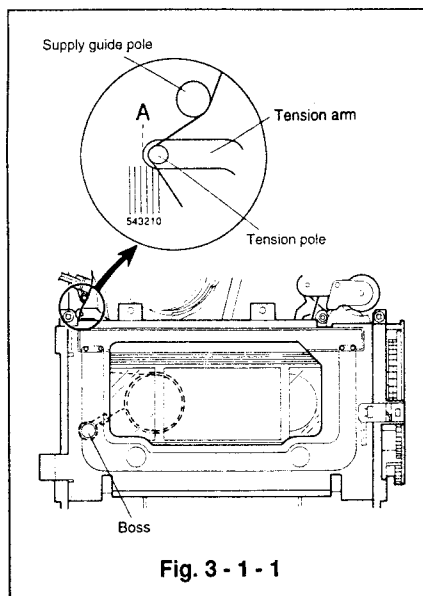
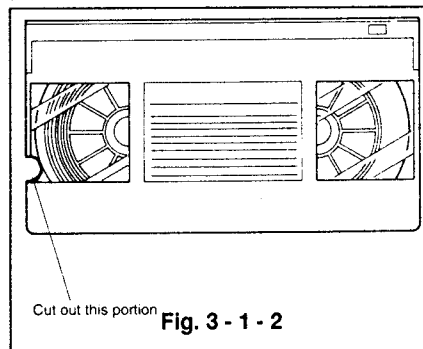
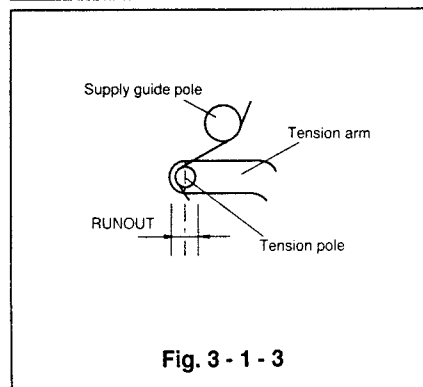

Fig. 3-1-1
Fig. 3-1-2
Fig. 3-1-3
- ① Cut out the alignment tape [PM6KH3 : 859C339O30] as shown in Fig. 3-1-2. This allows the boss to be adjusted while playing the tape by inserting hexagon wrench through the round hole in the cassette housing shown in Fig. 3-1-1. (Take care not to allow fragments of the cassette case inside the cassette tape.)
- ② Playback an alignment tape which has a cut out.
- ③ Make sure that the tip section A of the tension arm is between the divisions "2" and "2.5" on the main plate. (Fig. 3-1-1) (The divisions are numbered from the right to left.)
- ④ If tip section A of the tension arm is to the right of "2", turn the boss clockwise. If A is to the left of "2.5", turn it counter-clockwise.
- ⑤ Insert a back tension measuring jig (Part No. 859C346060) and set the VCR to the playback mode.
- ⑥ When tape travel becomes steady, make sure that the reading of the Back Tension Measuring Jig is $50 \pm 6g\text{-cm}$.
- ⑦ If the reading is high, replace the tension spring.
- ⑧ When tape travel is steady, check visually to make sure that the runout of the tension pole is 1mm or less. (Fig. 3-1-3)
- ⑨ If the runout is not within the specified value, replace the reel disk.